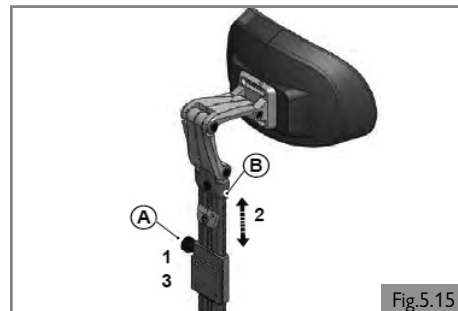

Fig.5.15
**Headrest height (Fig. 5.15)**
1. Loosen (A) a few turns.
2. Adjust (B) to the desired position.
3. Tighten (A). See section 8 for specified torque values.